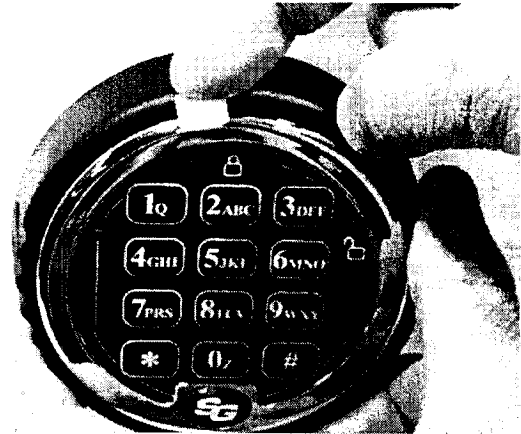

Figure 1
Step 1—Pull the yellow, spring-loaded tab at the top of the keypad (Figure 1) toward you slightly. It is not meant to separate from the keypad. Once it's pulled forward, carefully turn the keypad ring counterclockwise to stop. Then pull the ring away from its base far enough to expose the battery compartment.